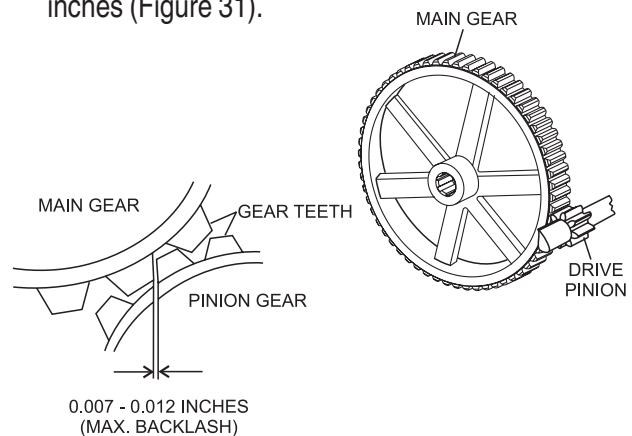

Figure 31. Drive Pinion and Main Gear (Backlash)
3. Using your hand, slightly move (rock) the drive pulley back and forth to determine the amount of backlash. Insert feeler gauge between gears to determine backlash distance. Backlash should range between 0.007- 0.012 inches (Figure 31).